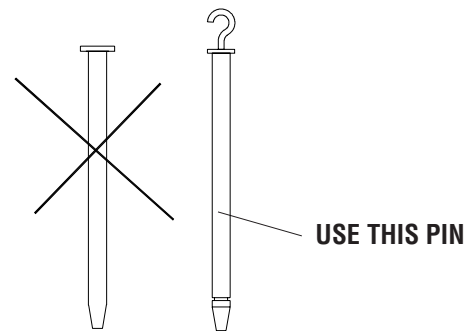

Figure 16
Step 7: Re-pin QMB to Wall (See Figure 16)